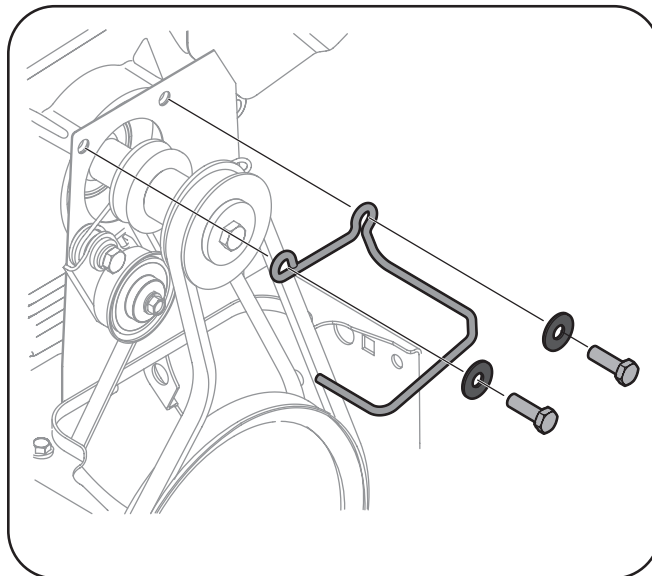

Figure 7-3
3. If your unit is equipped with a wire belt guide, washers and hex bolts shown in Figure 7-3 loosen and remove them.